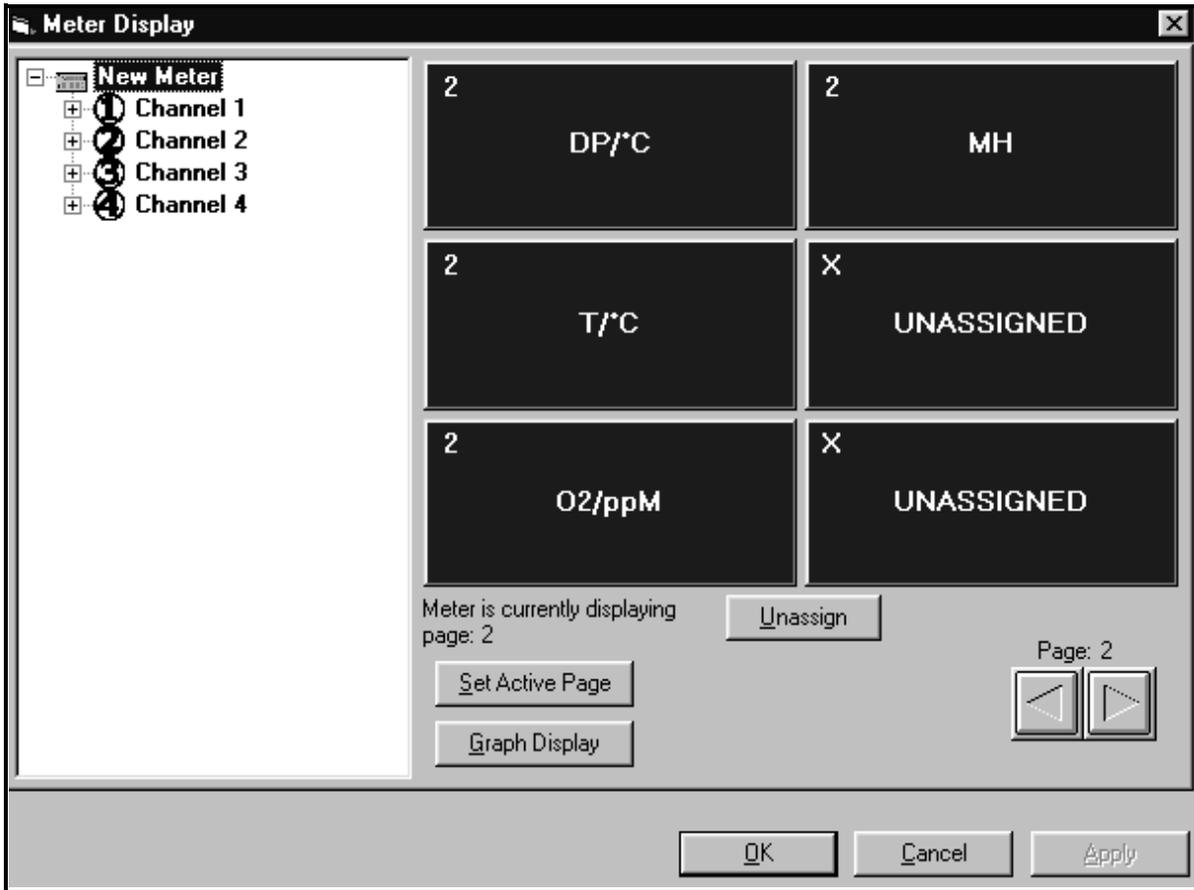
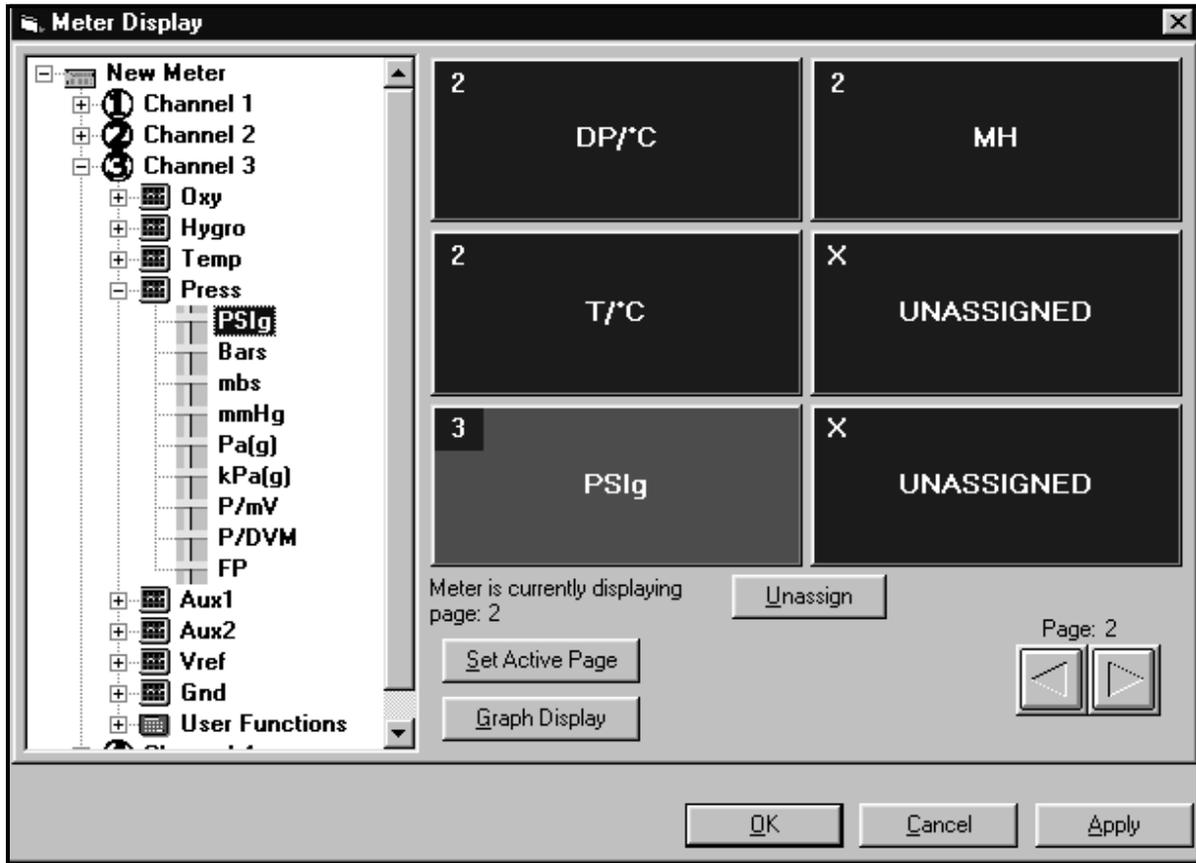

Figure 4-1: The Meter Display Window
Figure 4-2: Matrix Display After Programming
4. Double-clicking on any page opens the “*Meter Display*” window, shown in Figure 4-1 on page 4-3. Each individual blue window shows the mode and unit measured in the corresponding window on the Series 1 page, with the assigned channel number in the upper left corner. A line below indicates which page the meter is currently displaying.
Figure 4-2 on page 4-5 shows a typical change on the PC screen from O₂/ppm (shown in Figure 4-1 on page 4-3) to PSiG.